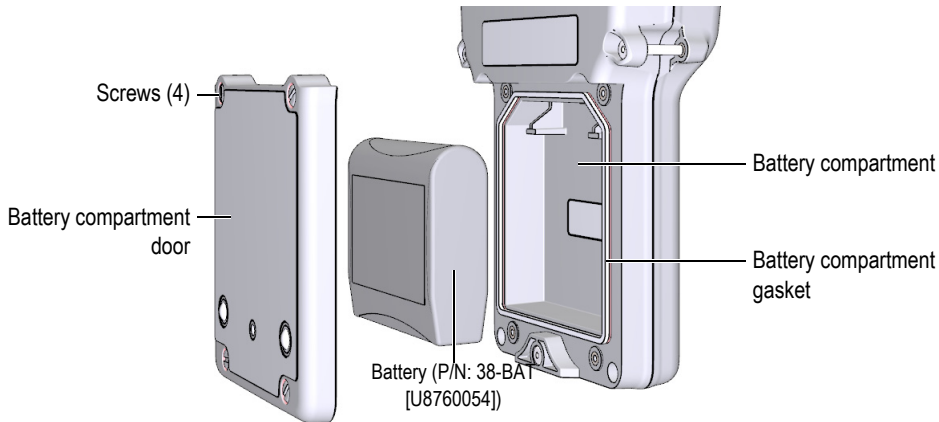

Figure 2-4 Opening the battery compartment
The battery is located in a compartment that is accessible from the back of the 38DL PLUS (see Figure 2-4 on page 42).
6. At the back of the instrument, unscrew the four screws of the battery compartment cover (see Figure 2-4 on page 42).